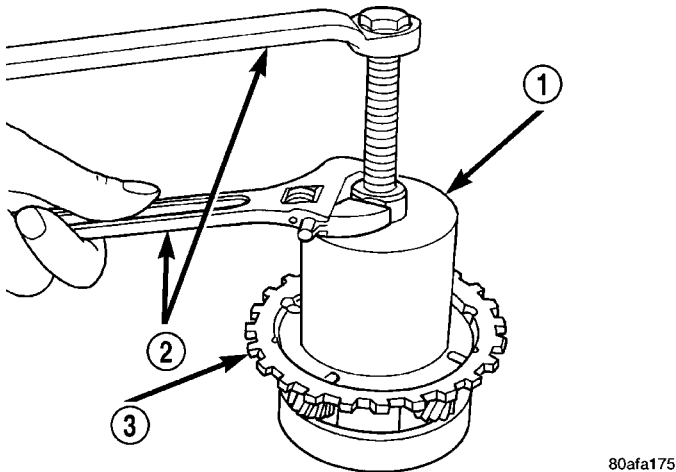

Fig. 71 Remove Rear Carrier Bearing Cone
(55) Remove rear carrier assembly bearing cone using setup shown in (Fig. 71).